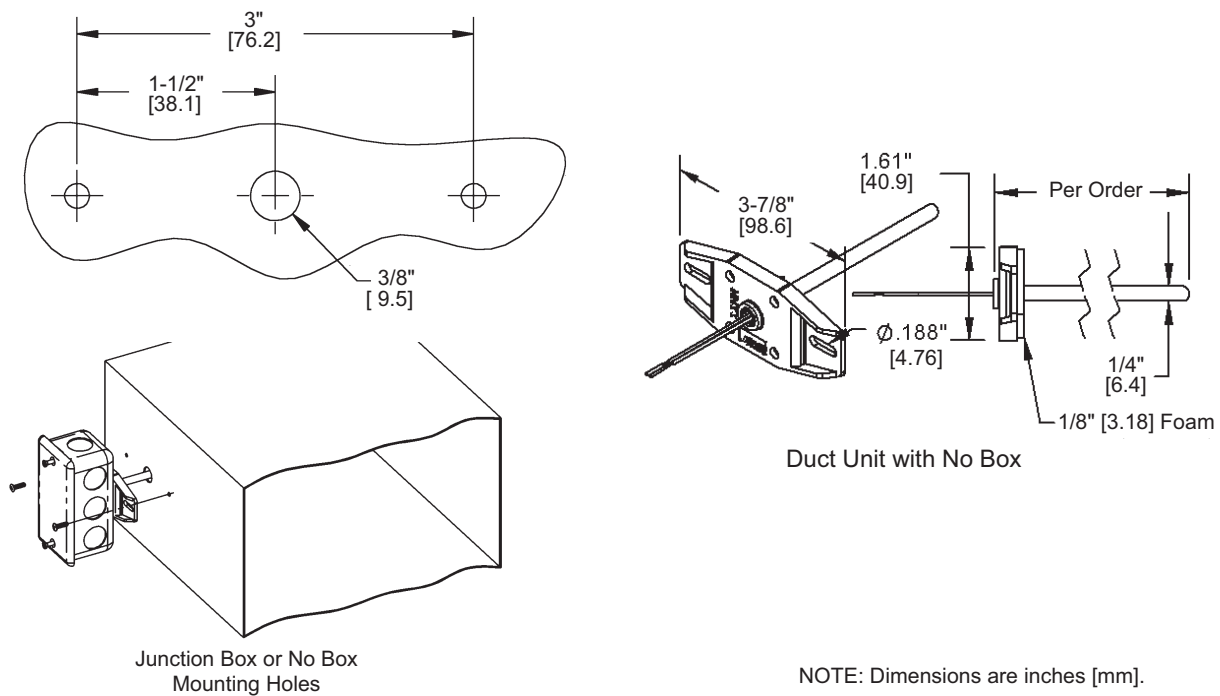

Fig. 8 — Sensor Schematic Mounting to Duct
2. Drill the probe hole as depicted in Fig. 8 for the enclosure being used. Insert the probe into the duct.